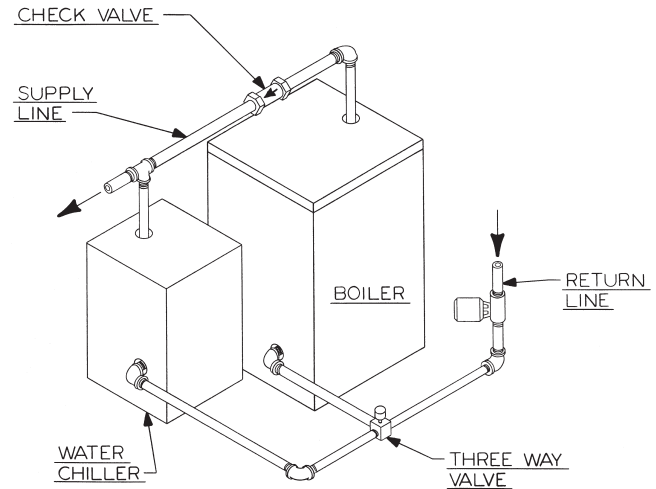

Figure 3.2: Parallel Hook-Up with Water Chiller
7. If this boiler and distribution system is used in conjunction with a refrigeration system, pipe the chilled medium in parallel with the boiler and install the proper valve to prevent the chilled medium from entering the boiler. A drawing illustrating this hook-up is provided in Figure 3.2.